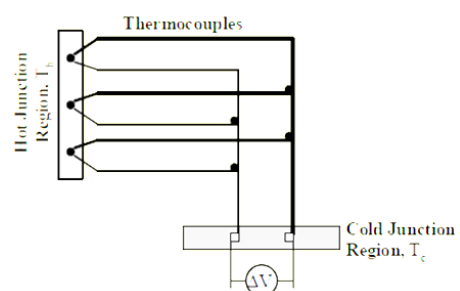

Fig. 5B
- 5B.** Estimate the voltage output of the micro-thermopile shown in Figure 5B, if “J” type ($50.37\ \mu\text{V}/^\circ\text{C}$) wire materials are used with the hot junction temperature at $145^\circ\ \text{C}$ while the cold junction is maintained at $0^\circ\ \text{C}$. Determine the voltage output, If micro thermopile are replaced by “K” type ($39.48\ \mu\text{V}/^\circ\text{C}$) thermocouple for the same operating temperature. **2**